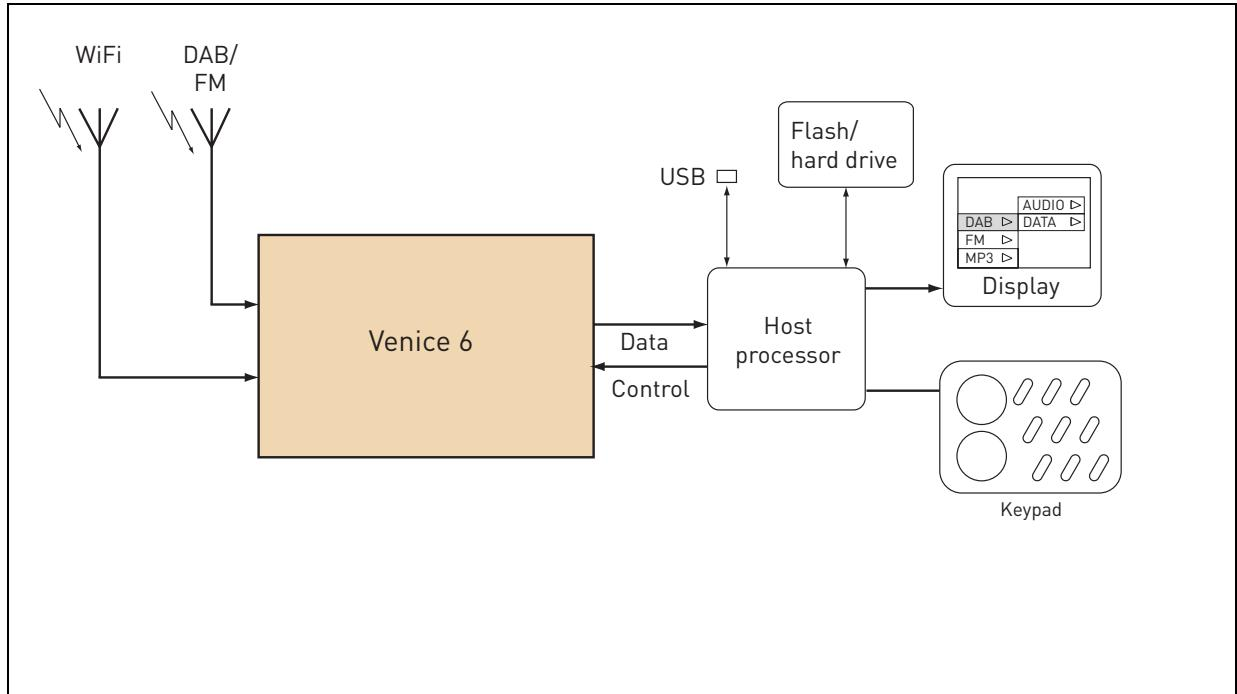

Figure 4: Slave mode application
*Figure 4* shows Venice 6 in a slave mode implementation.